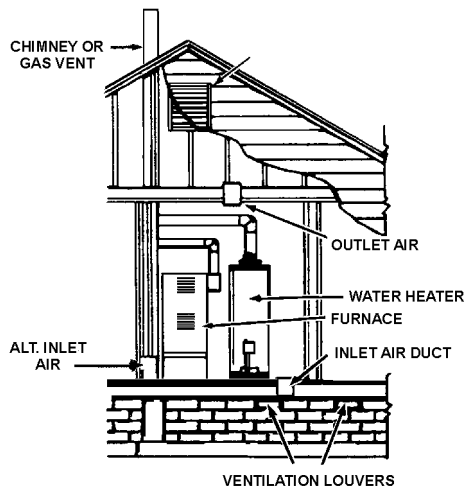

FIGURE 6.
B. ALL AIR FROM OUTDOORS: (See Figures 6, 7 and 8)
1. When directly communicating with the outdoors, each opening shall have a minimum free area of 1 square inch per 4,000 Btu per hour (5.5 cm²/kW) of total input rating of all equipment in the enclosure, see Figure 6.